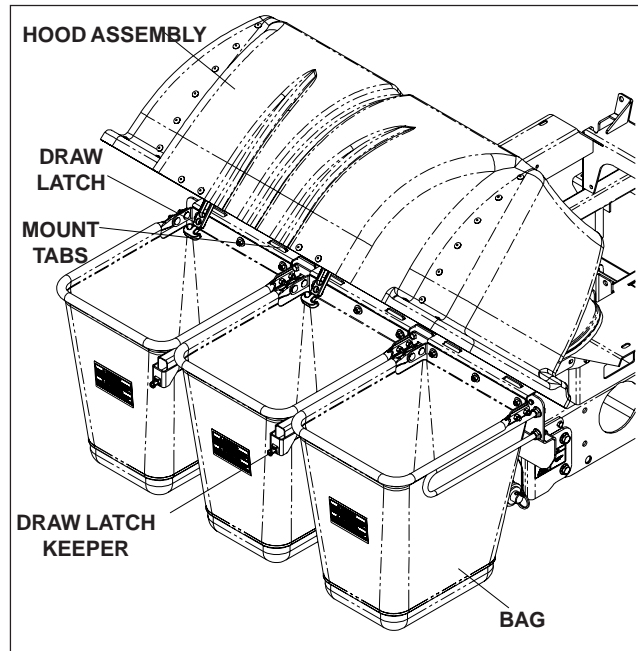

FIGURE 5
9. With the hood open, secure the (3) bags in place. The back of the bags will hook over the mounting tabs on the hitch assembly. Figure 5.
10. Close the hood, and latch the draw latch over the draw latch keeper on the hitch assembly. Figure 5.